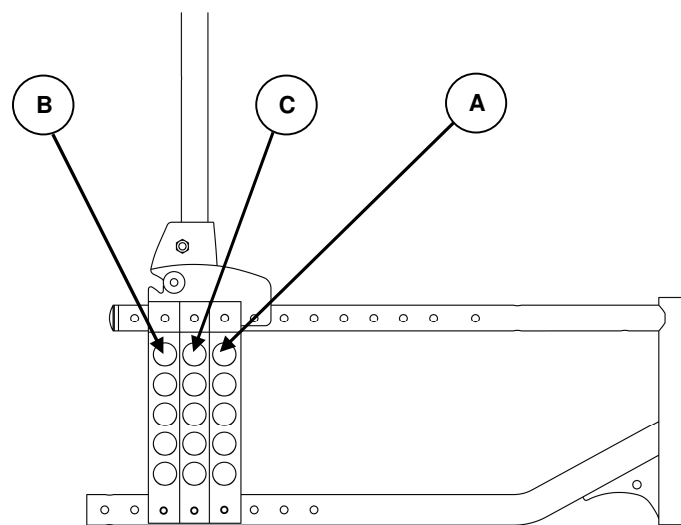

FIGURE 5.6 Possible Positions of Wheel Plate
3. Align the axle plate with one of four adjustment holes. There are 3 positions possible: Factory setting for Fixed backrest is Standard position “A”, for Recliner backrest is Passive position “B” or “C” for some configuration. Refer to detail “A” of FIGURE 5.6.
The two mounting screws need to be two adjustment holes apart to maintain frame integrity. Respect factory settings related to backrest type (“A” for Fixed, “B” for Recliner), refer to detail “A” of FIGURE 5.6.